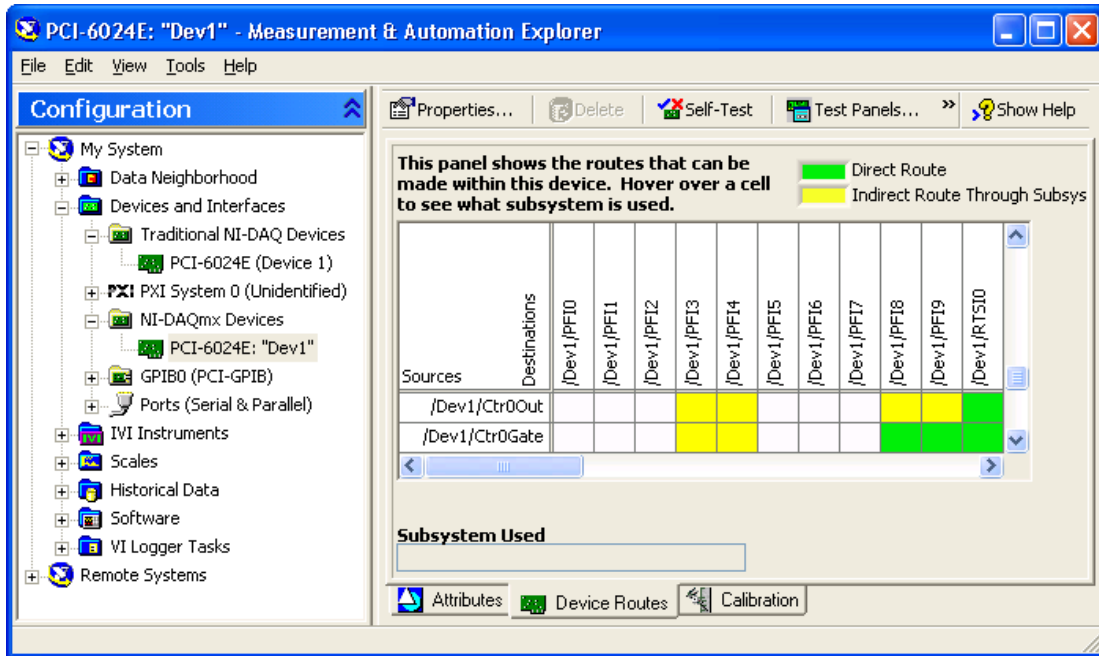

Figure 10.4
3. The **Device Routes** (Figure 10.4) tab provides detailed information about the internal signals that can be routed to other destinations on the device. This is a powerful resource that gives you a visual representation of the signals that are available to provide timing and synchronization with components that are on the device and other external devices.